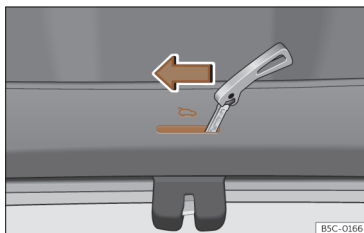

Fig. 93 Luggage compartment: manual release.
- Insert the key blade into the slot and move the key in the direction of the arrow until the lock unlocks >>> **Fig. 93**.